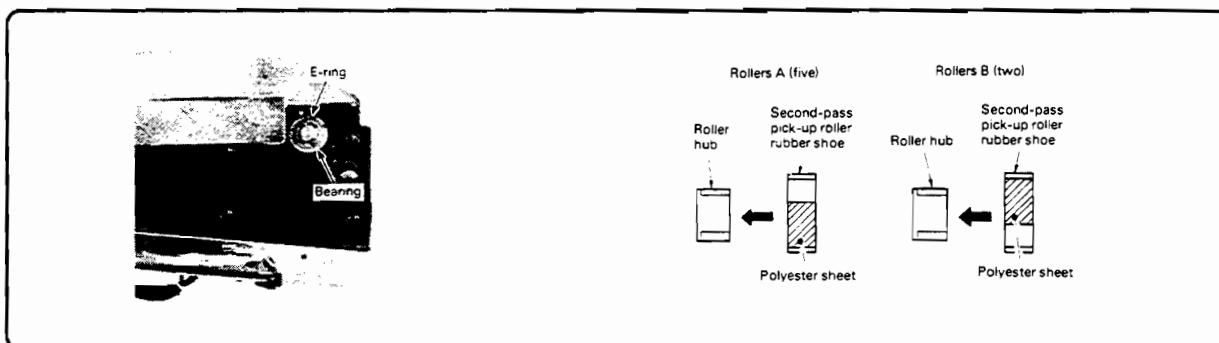

Figure 6-158. Retaining Dowel Pin and Bearing
1. There are two types of second-pass pick-up rollers. The rubber shoe of each type is mounted on its hub in a different manner. Use the correct type of roller in each position (refer to Figure 6-158).